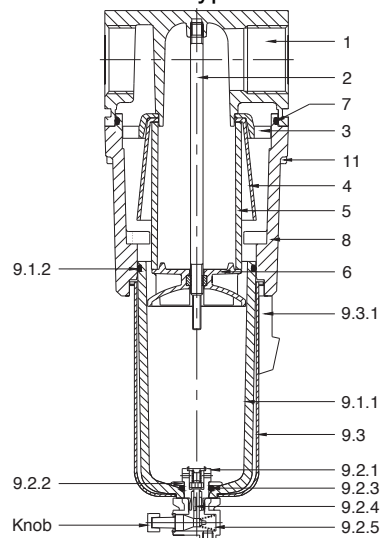

Fig. 3
1. For draining the condensate water collected in the bowl ( 9.1.1 ), press the knob of the Drain valve ( see fig.3 ).